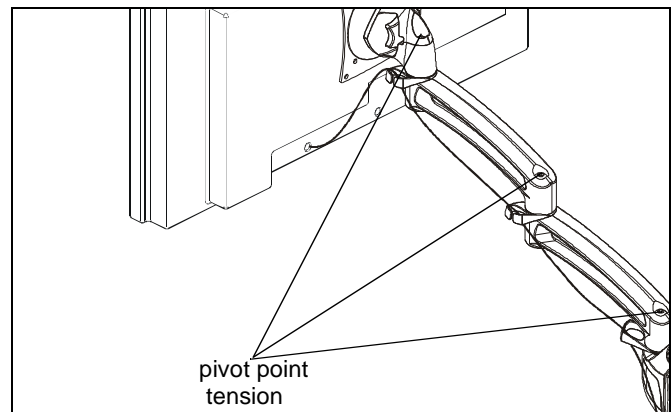

Figure 15
1. Adjust pivot position as desired. (See Figure 15)
2. Adjust pivot point tension screws to change pivot adjustment tension. (See Figure 15)